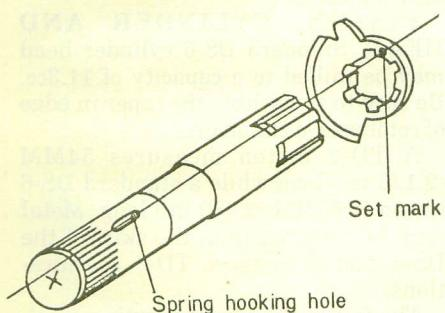
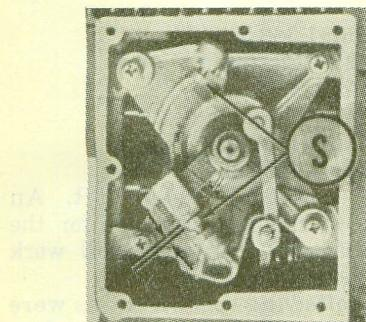

Fig. Y7-21—Mark on kickstarter gear should be aligned with spring hooking hole as shown.
Fig. Y7-22—Gear change stop bolts (S) should have approximately 1MM clearance when stop ball engages detent in shifter cam.
**CRANKCASE AND GEAR BOX.** The kickstarter gear should be installed on shaft with mark on gear aligned with spring hooking hole as shown in Fig. Y7-21. Shifter stop bolts (S—Fig. Y7-22) should have approximately 1MM (0.04 in.) clearance as the stop ball falls into detent in the cam.